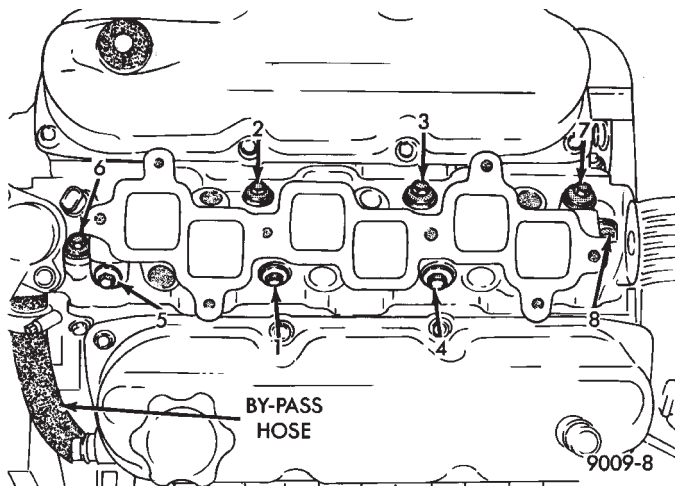

Fig. 15 Intake Manifold Removal and Installation
(4) Install intake manifold and (8) bolts and torque to 1 N•m (10 in. lbs.). Then retorque bolts to 22 N•m (200 in. lbs.) in sequence shown in (Fig. 15). Then retorque again to 22 N•m (200 in. lbs.). After intake manifold is in place, **inspect to make sure seals are in place**. Refer to Group 11 Exhaust System and Intake Manifold to complete Intake Manifold Assembly.
(5) Install exhaust manifolds and tighten bolts to 27 N•m (20 ft. lb.) and nuts to 20 N•m (15 ft. lbs.).
(6) Adjust spark plugs to specification in Electrical Section, Group 8, and install the plugs.